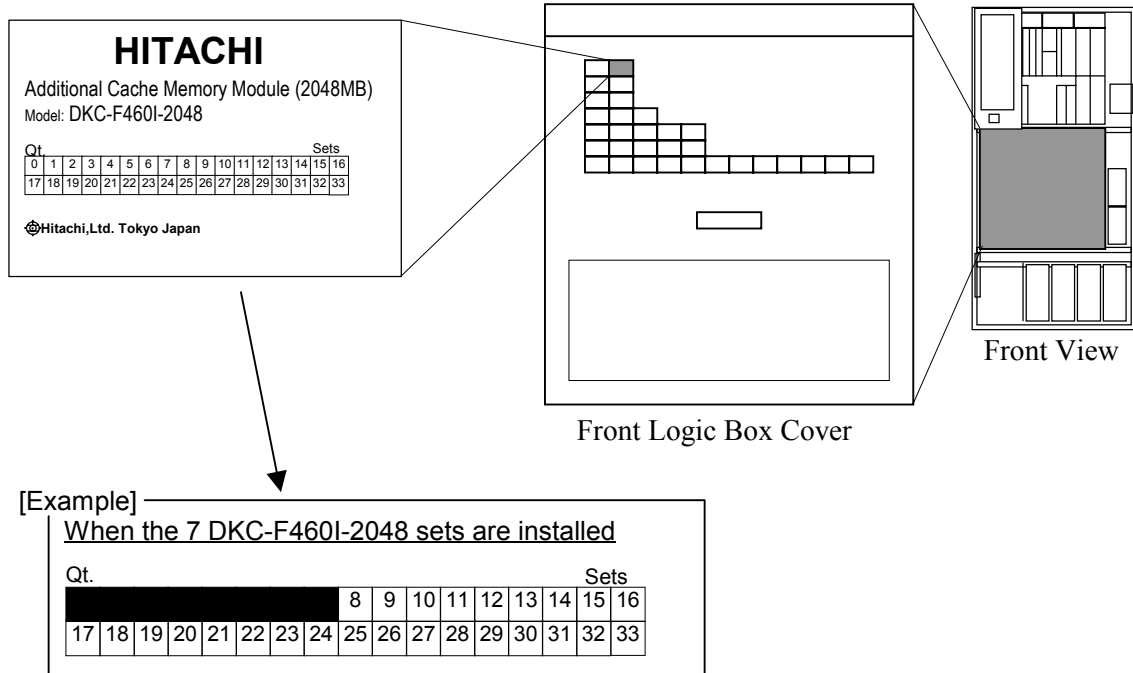

Fig. 4.2.2-7 Location of the Nameplate
- a. Refer to Fig. 4.2.2-7 wipe off to unnecessary numbers on the nameplate.